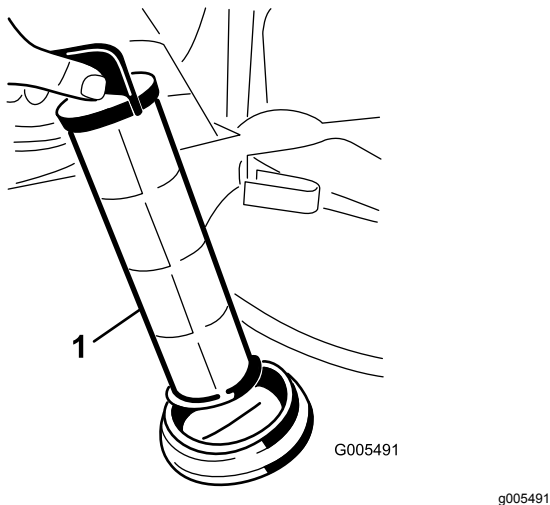

Figure 68
4. Pull the suction strainer out of the hole (Figure 68).